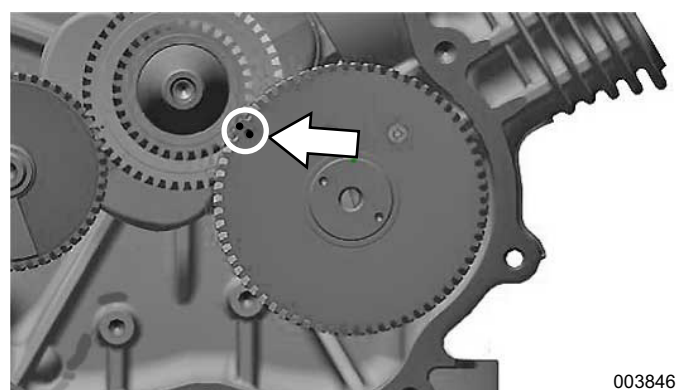

Figure 14-23. Align Timing Marks
4. See Figure 14-23. Align timing marks on camshaft driven gear and crankshaft cam drive gear.